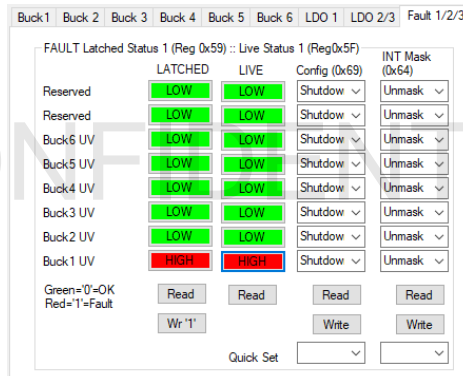

Figure 14. Example - Buck1 UV Fault
Fault status reporting features both textual labels and color feedback for quick view/assessment. Green = Good/normal, Red = Bad/fault. Figure 14 shows how the GUI would report an active and uncleared undervoltage (UV) fault on Buck1. For faults that feature a Write 1 to clear mechanism, the user can click to toggle HIGH/LOW the required fault bit and click the respective **Wr '1'** button to write the register.